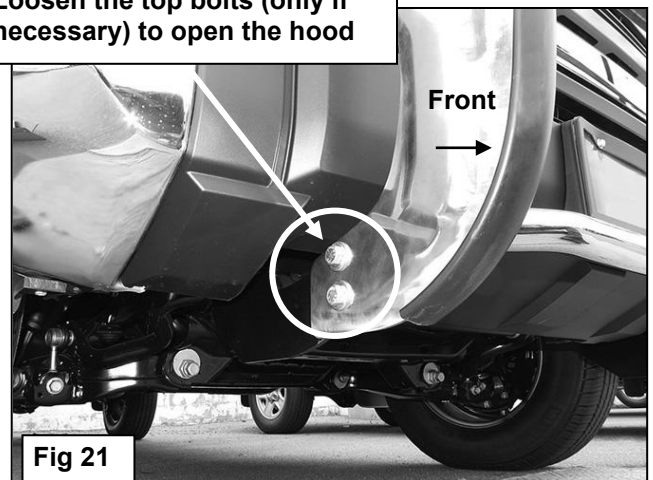

Fig 21
17. Release/loosen the levers on the Quick Release Bolts, **(Figure 19)**, and pull the Grille Guard away from the vehicle to the "open" position, **(Figure 20)**. **NOTE:** It may be necessary to slightly loosen the top (2) 12mm Hex Bolts on the Frame Mounting Brackets to move the Grille Guard, **(Figure 21)**. Center and level the Grille Guard and tighten all hardware including the Frame Mounting Brackets.
(Figure 21). **WARNING!** Do not completely loosen bolts or damage to the truck or Grille Guard may occur.
22. Lift the levers on the Quick Release Bolts to release the clamping pressure, (Figure 19). Pull the Grille Guard out and away from the vehicle to the "open" position, (Figure 20). **NOTE:** If the Grille Guard does not pivot to "open" position, **slightly loosen the 12mm upper Hex Bolt on each Mounting Bracket, (Figure 21).** **WARNING!** Do not completely loosen bolts or damage to the truck may occur.